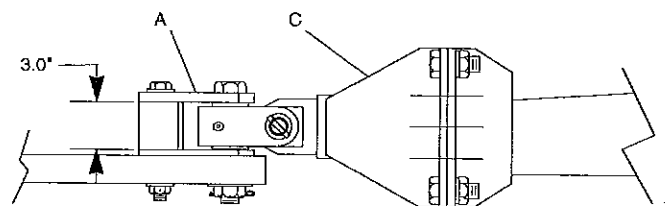

FIGURE 4 - HITCH INSTALLATION
Attach harvester to tractor with Yoke Weldment (A) and bolts provided. See figure 4 for proper installation. The existing tractor clevis may be used if a 3" spacing can be maintained. If tractor drawbar mounting hole is larger than 1-1/4" a bushing should be installed.